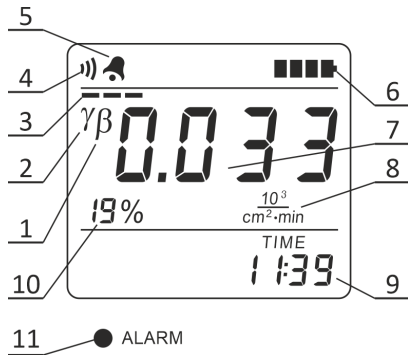

Figure 2.9 – LCD of the radiometer
2.3.3.7.8 When measuring characteristics of beta radiation, the LCD of the radiometer displays the following information (Figure 2.9):
- the estimated limit of statistical deviations (10) of the measurement result (7);
- " β " symbol (1) - an indication of the measured radiation type;
- " γ " symbol (2) - is displayed if measurement takes place without consideration of gamma radiation component;
- instantaneous value indicator (3);
- sound symbol (4) (if sound signaling of registered gamma quanta and beta particles is switched on);
- alarm clock symbol (5) (if the alarm clock is on);
- battery status symbol (6);
- measurement result (7);
- dimension of measurement result (8) $10^3/(\text{cm}^2 \cdot \text{min})$, cps or faded away, if the dimension is Bq/cm^2 ;
- current time (9).
If surface activity measurement is carried out in Bq/cm^2 , then "Act" characters are periodically displayed on the LCD of the radiometer and the dimension of the measurement result goes blank (8) (Figure 2.9).